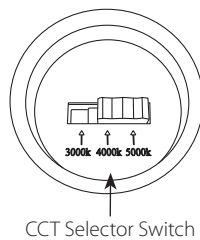

FIG. 6
2. Adjust the CCT by sliding the respective switch to the desired value as shown in Fig. 6.